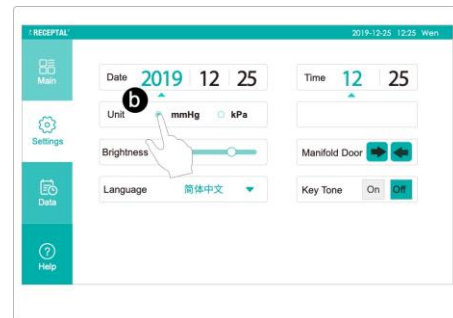

Figure 15 To Adjust the Rover
4. From the system settings view, tap as needed to select the system settings you want to adjust (Figure15).